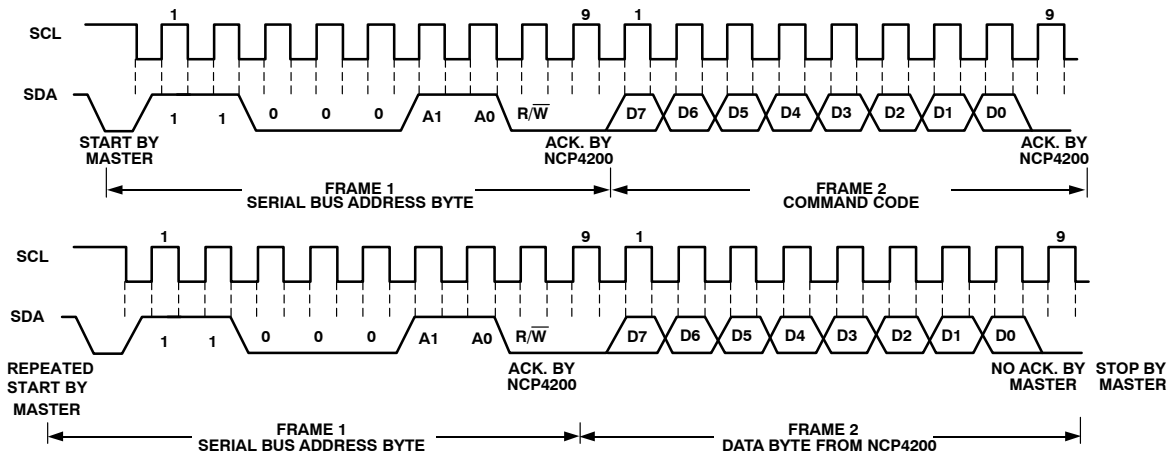

Figure 13. Read Byte
1. The read byte operation is shown in Figure 13.